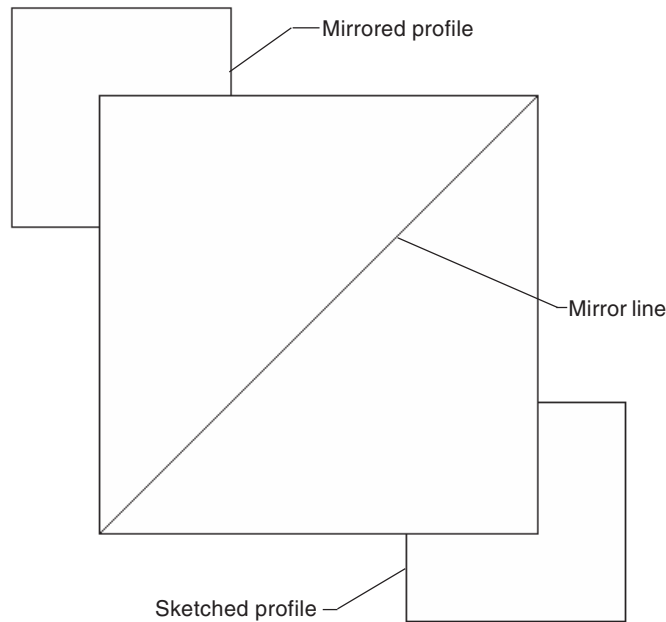

Figure 9-42 Creating a mirror copy of the sketched profile
22. Draw a line from the top right corner to the bottom left corner of the central square to define the mirror line. The profile is mirrored to the diagonally opposite corner of the square, as shown in Figure 9-42.